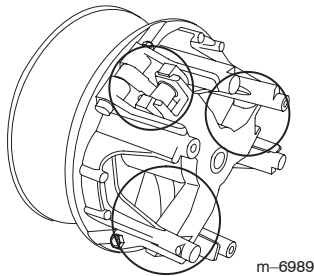

Figure 39
- Lubricate the moving parts in the areas circled in Figure 39 using Toro Dry Lubricant Spray, available through your Authorized Toro Dealer or Distributor.